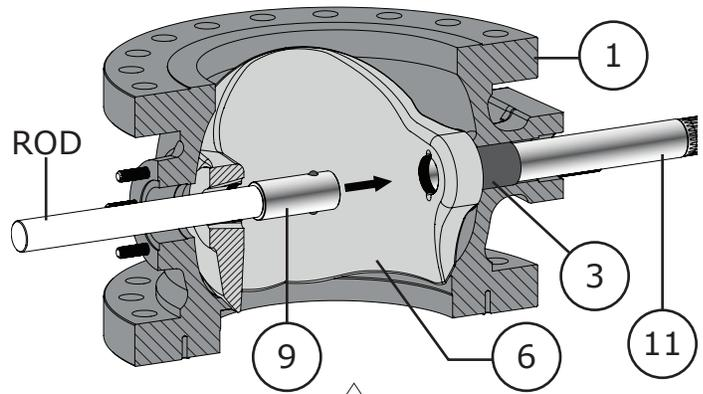

Figure 24 16 Inch Follower Shaft Removal
NOTE: 16 inch valves use a combination of shaft pins (Keys 10 & 13) held in place by shaft retainers (Key 15) to connect the shafts (Keys 9 & 11) to the ball (Key 6). Refer to Figures 24, 25, & 26.
- 5 Remove the follower shaft (Key 9) by pushing it towards the center of the ball (Key 6). Refer to Figure 24.